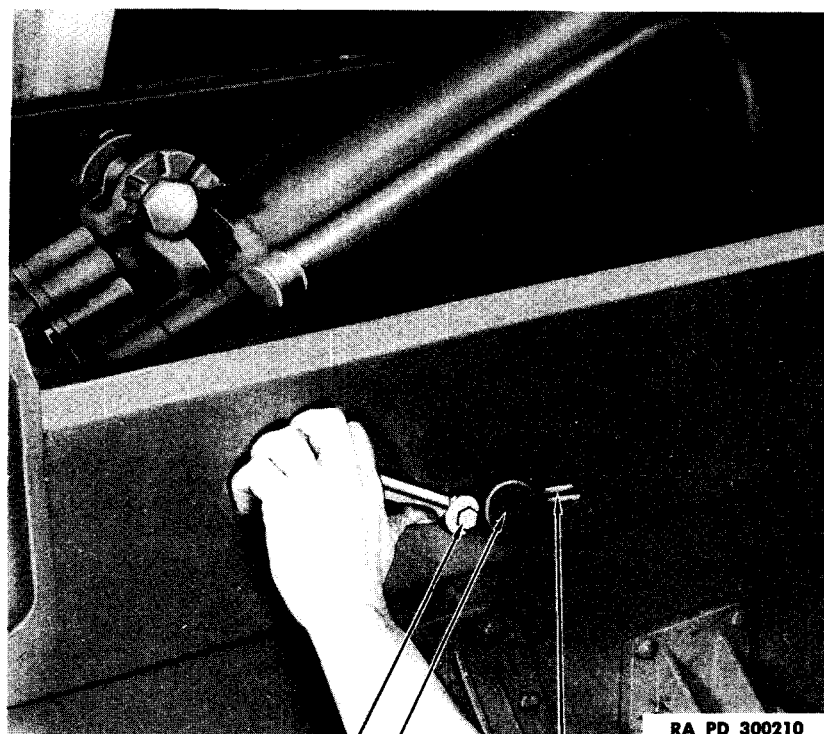
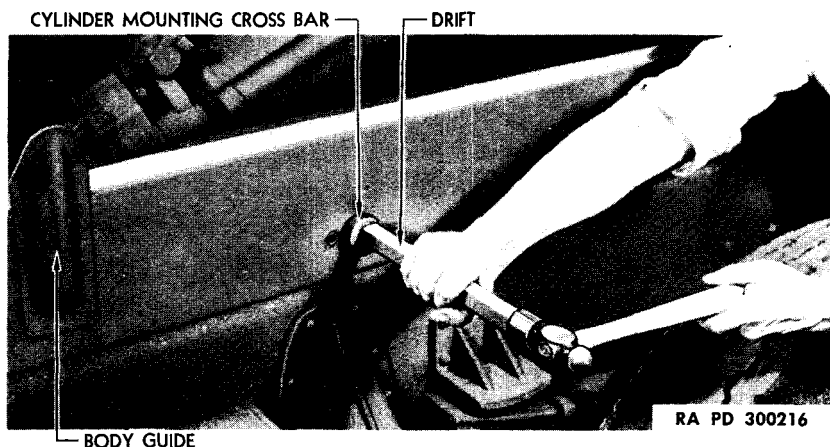

Figure 124—Galion Hoist Mounting
Figure 130—Removing Cylinder Mounting Cross Bar
(6) On Galion hoist, remove hoist support bar cotter pin lock screw and cotter pin (fig. 124). Using suitable drift and hammer, drive the bar through the subframe. Continue to drive until cylinder is free (fig. 130).
(7) On Anthony hoist, remove the hoist pivot bracket to subframe bolts on left- and right-hand side.
(8) Work piston rod free of knuckle and lift cylinder assembly from subframe.